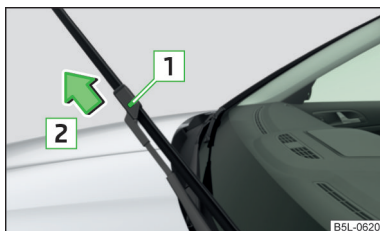

Fig. 191
- Press the locking button **1** » Fig. 191 to unlock the wiper blade and pull off in the direction of the arrow **2**.